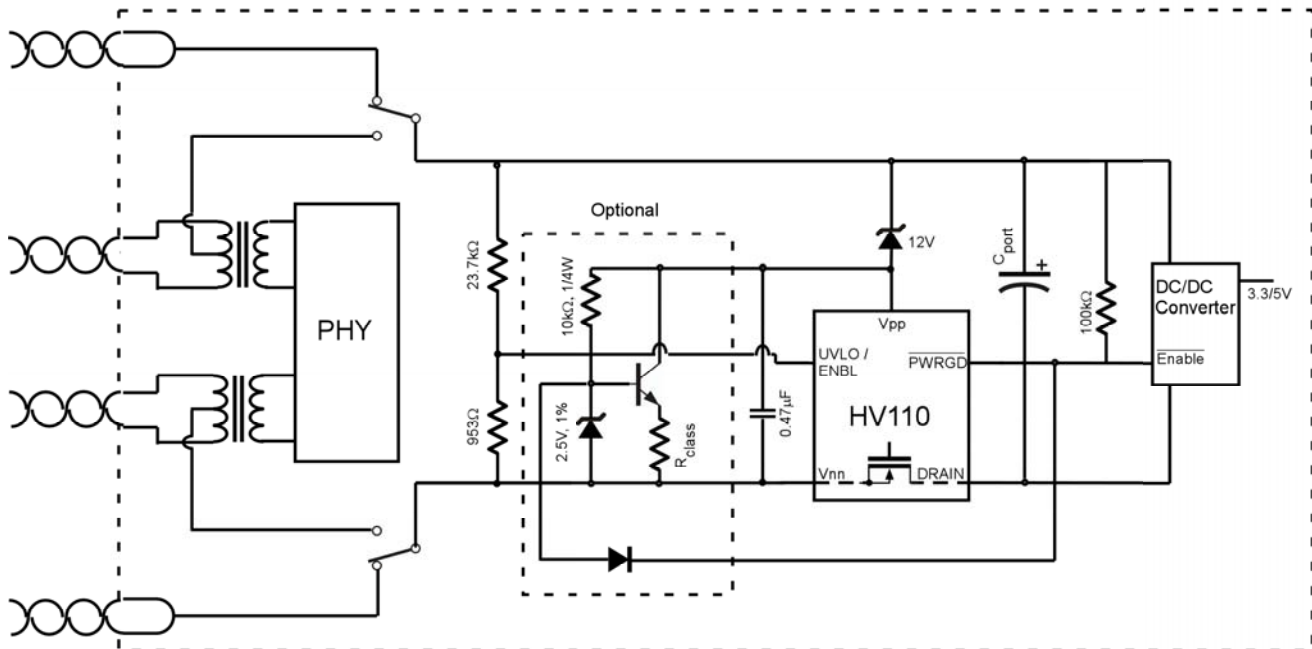

Figure 9. Classification Circuit with HV110
Note that Class 0 default will work for all devices & Classification is only needed in the rare instance when a multi-port switch or router wants to rate the system supply lower than the combined Class 0 port output; a situation which will reduce it's potential classification base. In fact most of the PD devices, like Wireless Access Points, in the market today are Class 0 devices and hence do not require any classification methods. HV110 therefore does not force the use of resistors and wasted silicon area to implement a Classification current source. HV110, however, can be made to be compatible with classification by utilizing low cost circuitry as shown in Figure 9.
- Classification can be easily implemented, as shown in Figure 9.
Figure 9 above shows the schematic for a typical classification scheme used with HV110. The PSE identifies the Class of the PD, by measuring the current flowing into  $R_{class}$  during the Classification Period.